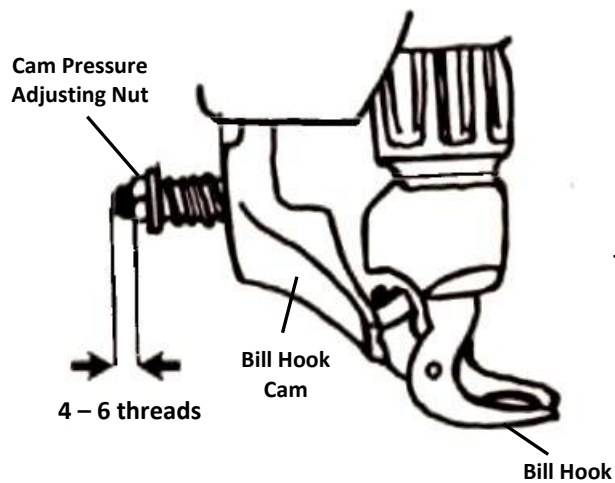

Fig.5.23 Recommended (*initial*) setting for (*New Holland*) Bill Hook jaw clamping pressure
- Is the Bill Hook jaw clamping pressure correct? (*Fig.5.23*)